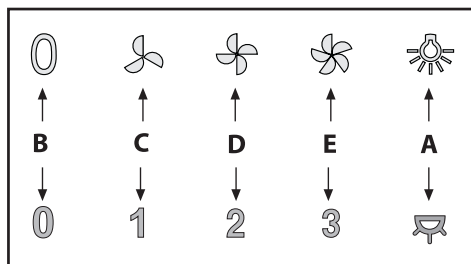

Fig.10
• Commands (Fig.10) mechanical the key symbols are explained below: